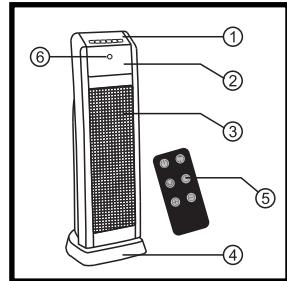
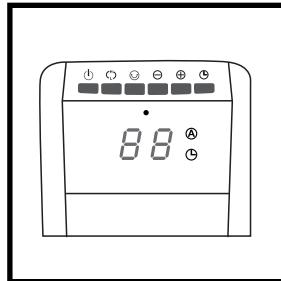

Figure 1
Figure 2
| 1. Control Panel | (Figure 1) | Symbols | (Figure 2) |
3. When the heater is initially plugged in, there will be a "beep" and the **Power Light** will come on indicating that there is power to the unit. The **Power Light** will remain lit until the heater is unplugged from the electrical outlet. (**Figure 2**)
4. Turn the heater ON by pressing the **Power Button** (①).
6. Press the (②) button to switch over LOW or HIGH heat.
7. To turn the heater OFF, press the **Power Button** (①). The unit will first turn off the heating elements, the fan will be shut down in half a minute. Unplug the unit by pulling the plug from the electrical outlet only after the fan stopped.